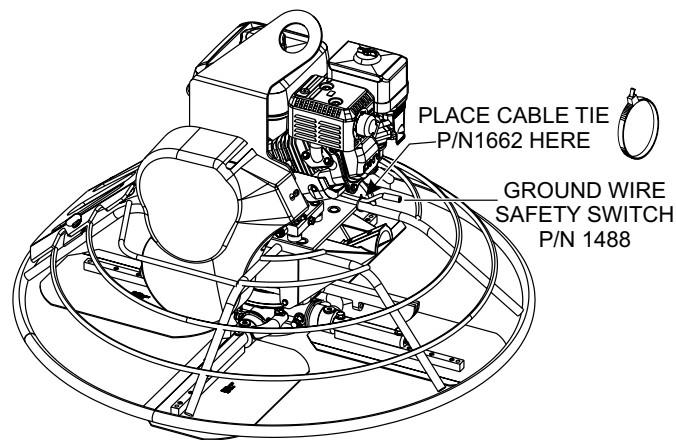

Figure 13. Cable Tie Connection Point
2. Using cable tie (Figure 13) P/N 1662 secure female end of **BLACK** ground wire (safety switch) P/N 1488 to guard ring.